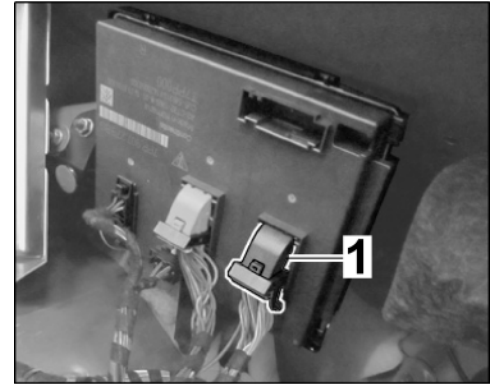

Figure 18
- 2.4.5 Connect electric plug connection to the rear-end electronics control unit (⇒ *Figure 18*, ⇒ *Workshop Manual '578919 Removing and installing control unit for rear-end electronics'*).